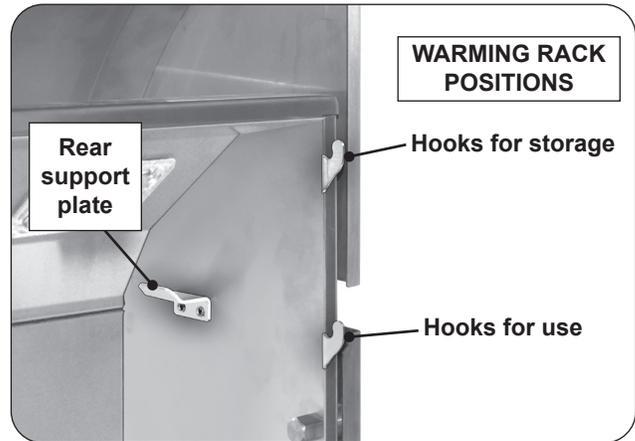
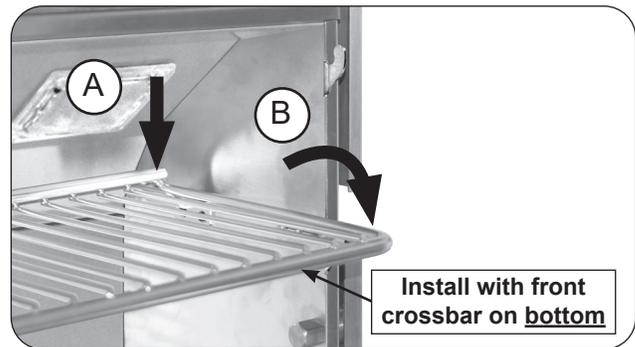
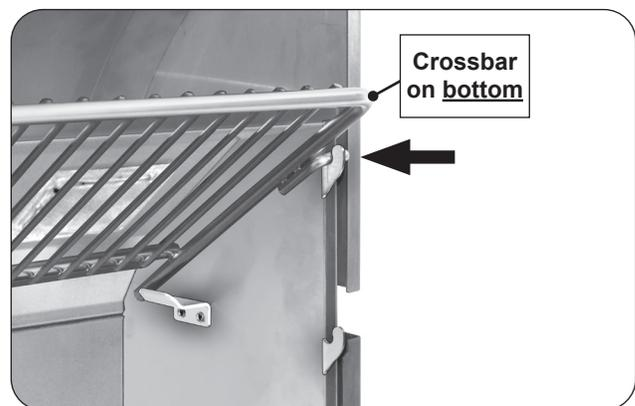

Fig. 26-2 Warming rack hooks
Fig. 26-3 Place warming rack for use
Fig. 26-4 Place warming rack in storage position
1. Locate the warming rack hooks and rear supports found on the upper portion of the grill oven (see Fig. 26-2).
2. With the warming rack oriented as shown, carefully rest the rear of the rack onto the rear support plates (Fig. 26-2, A), then rest the warming rack arms onto the two lower hooks for use (Fig. 26-3, B). Use the top hooks for storage (see Fig. 26-2 and Fig. 26-4).